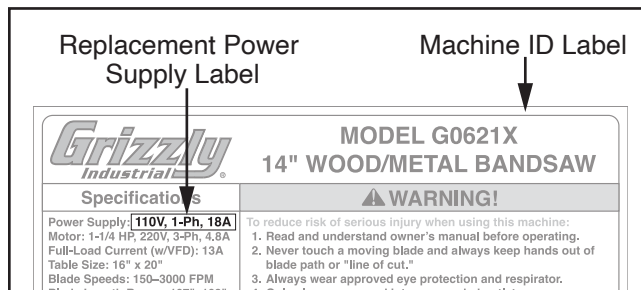

Figure 12. Replacement power supply label installed.
14. Place replacement power supply label included with kit over **Power Supply** specification on machine ID label (see **Figure 12**).